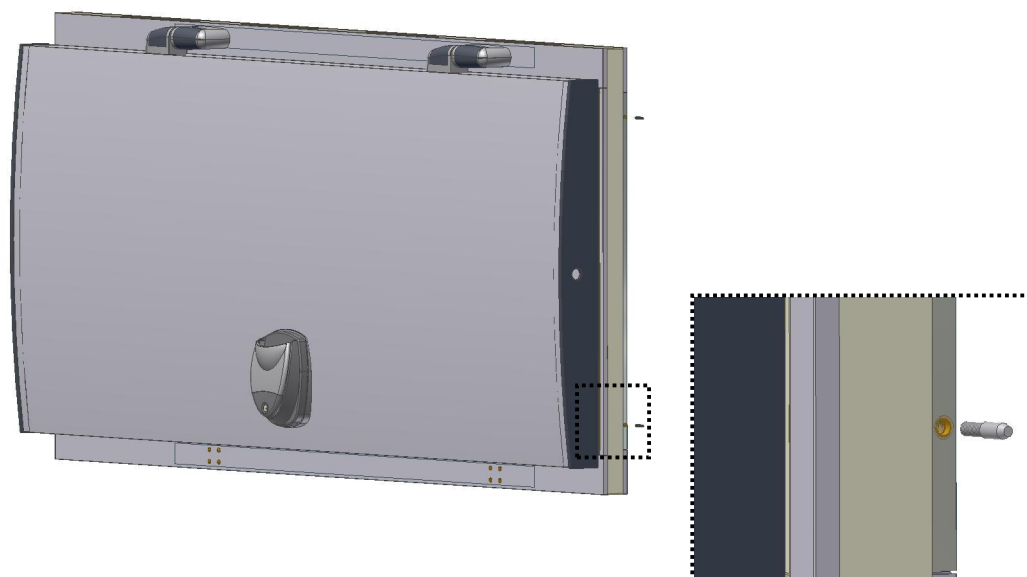

Fig. 4
- Place the stud-pins in the panel of the door frame, before it is assembled (Fig. 4).